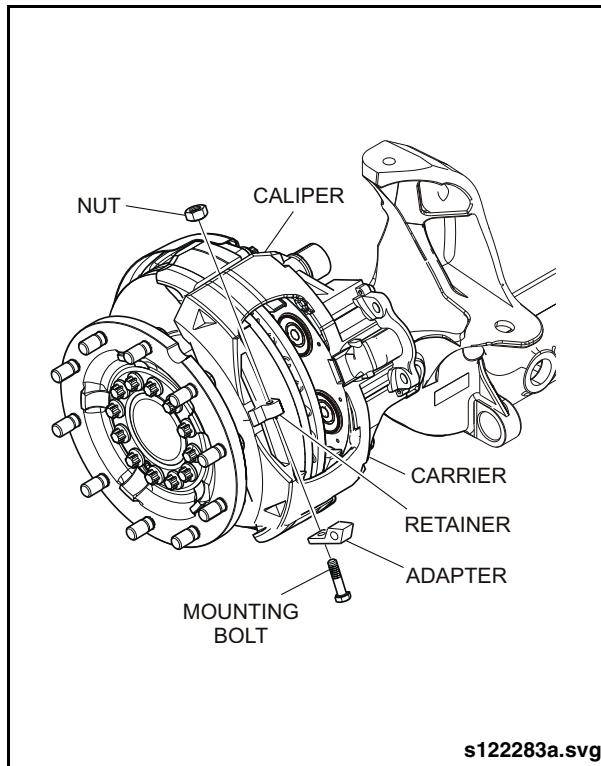

Fig. 2-115: Adapter Installation
- b. Install the adapter onto the brake caliper. See "Fig. 2-115: Adapter Installation" on page 104.